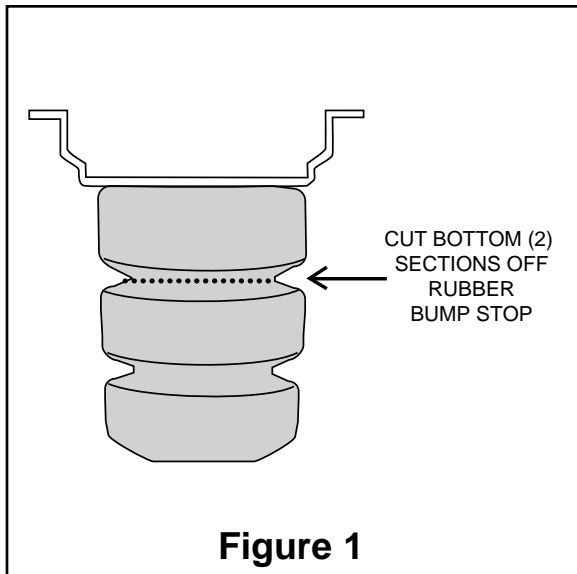

Figure 1
3. Cut the bottom two sections off the rubber bump stop from the upper spring seat and discard (Figure 1).
If the vehicle's headlights are shining into the trees or the vehicle is leaning to one side, then it is not level (fig. 1). Raise the air pressure to correct either of these problems and level the vehicle.